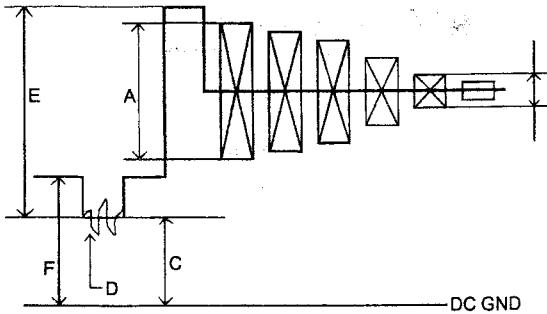

Fig.7
- With the multi-burst signal, observe the wave form in Fig.7 with an oscilloscope.
- Adjust the IF-AGC voltage from TP301 with DC variable power supply so that the E-voltage in Fig.7 becomes approximately 1.5V.
- Adjust the IFT302 so that the DC voltage of C or F in Fig.7 becomes the minimum. When C-voltage drops and the wave form becomes unstable, adjust the IFT302 again.
- Confirm that the H-SYNC (D) has no noise.